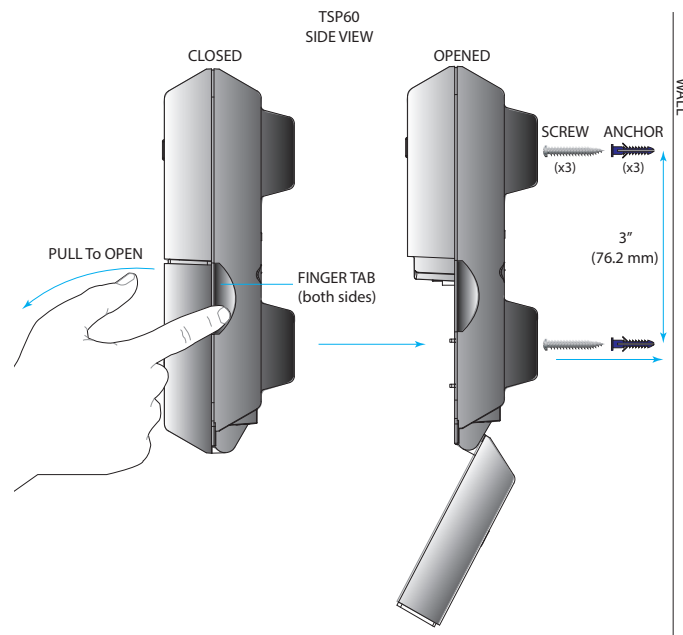

Fig. 3.8
9. If you are also using a TSP60 (only required if using ground loops), mount it using the three mounting keyholes at the rear of the unit. The two lower keyholes can be accessed by opening the lower front cover of the housing. The latch is magnetic. Use the finger tabs on both sides and pull back from the housing to open it (see Fig. 3.8).